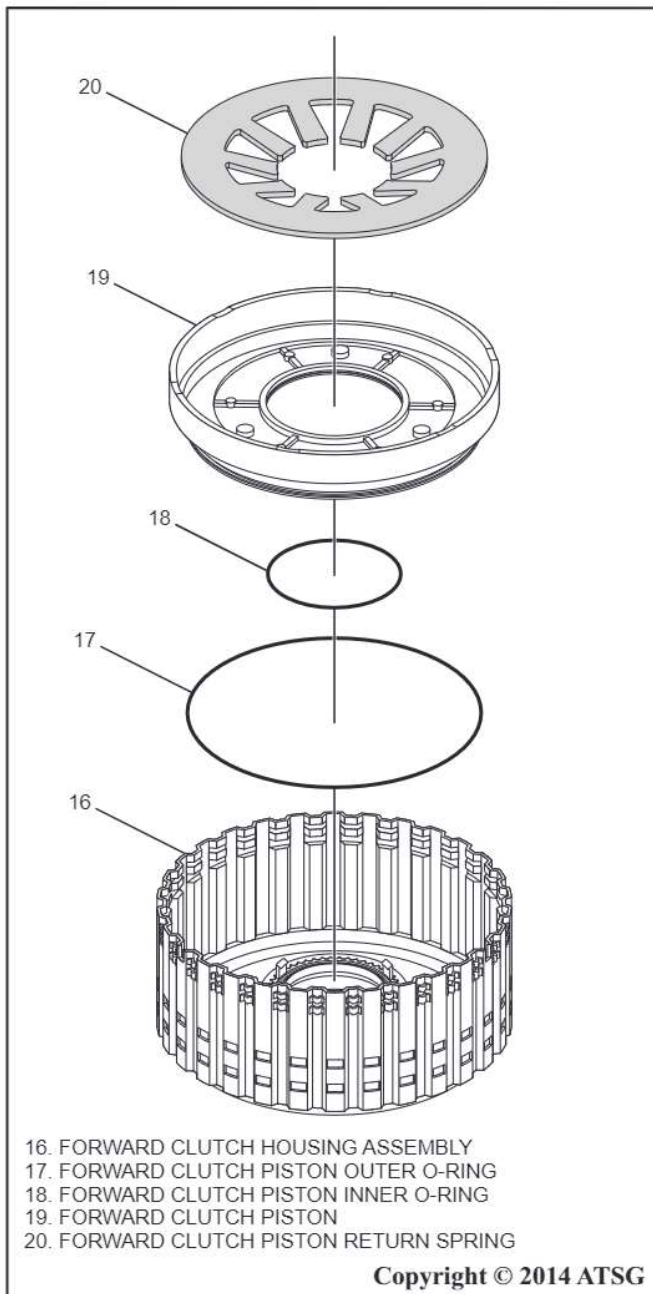

Figure 86
33. Remove the forward clutch piston return spring as shown in Figure 86.
34. Remove the forward clutch piston and discard the outer and inner o-ring seals as shown in Figure 86.